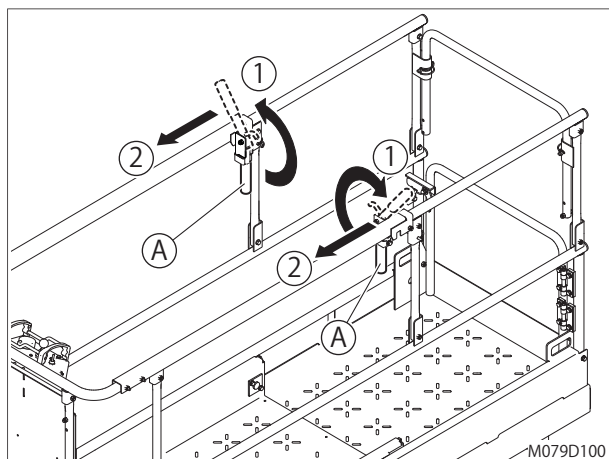

fig. 8-5
- (1) Get on the side of the platform that does not have the extension deck.
- (2) Turn the handles (fig. 8-5, A), which are on the left and right guardrails, towards the inside until it stops. (fig. 8-5, 1)
- (3) The lock of the extension deck will be released.
- (4) While holding the handles, push the deck forwards until it stops. (fig. 8-5, 2)